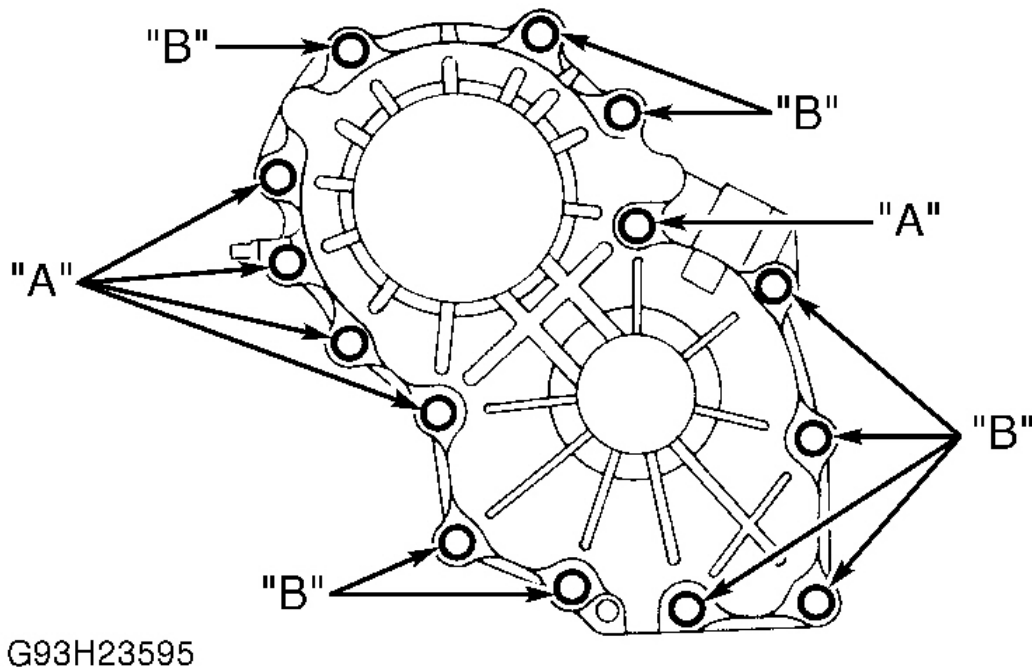

Fig. 17: Identifying Side Cover Bolt Locations
13. Remove rear internal gear and forward clutch hub from transaxle case. Remove overrun clutch hub from transaxle case. Remove needle bearing from overrun clutch hub and check bearing for damage or wear. Remove forward clutch assembly from transaxle case. Remove needle bearing from transaxle case. Remove side cover bolts and side cover. See **Fig. 17**.